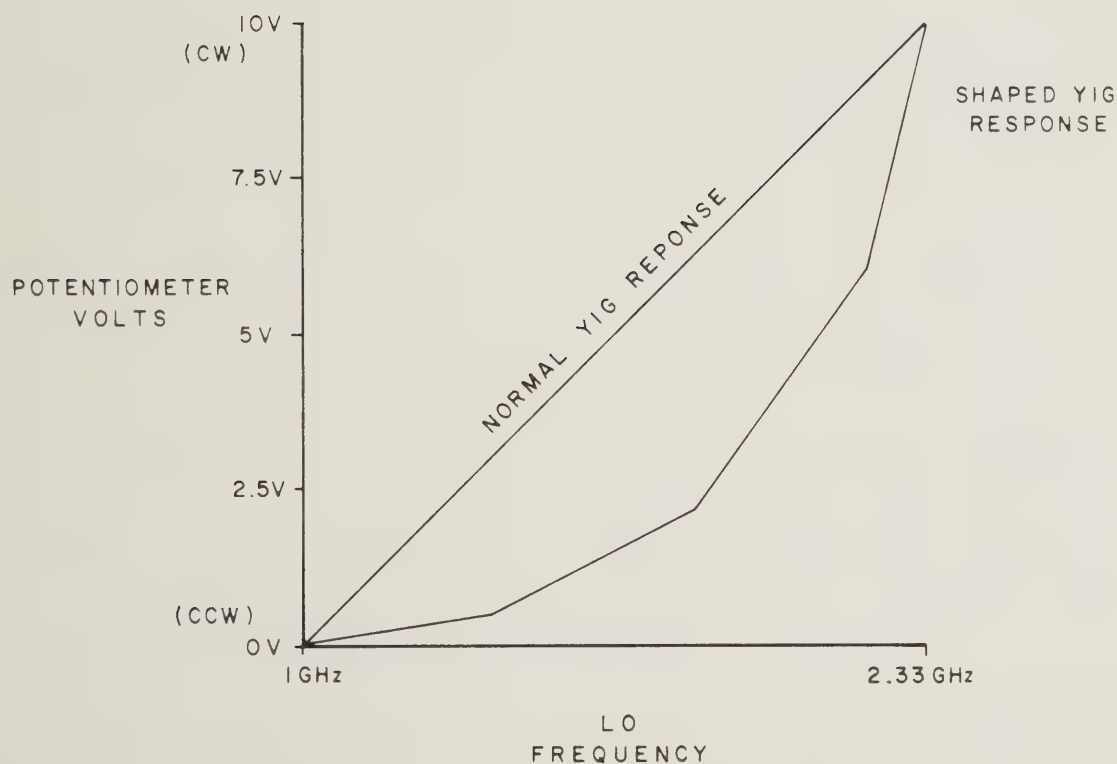

Figure 2-2. Simulated YIG-to-LO Tuning Curve
2.2.2 The YIG shaper and driver circuitry accomplishes this by setting different voltage levels at different points on the YIG driver potentiometer. These levels are set such that they approximate the tuning response of the LO. Twelve identical circuits consisting of voltage divider networks, varied by potentiometers R26 through R37, and unity gain operational amplifiers U3 through U8 produce the constant voltages needed. Thus, a controlled voltage level is felt at each tap on the YIG driver potentiometer. Figure 2-2 shows a simulated YIG tuning curve which has four break points instead of the 12 points used in this unit. This curve is created by the YIG driver pot as the LO is swept through its range.